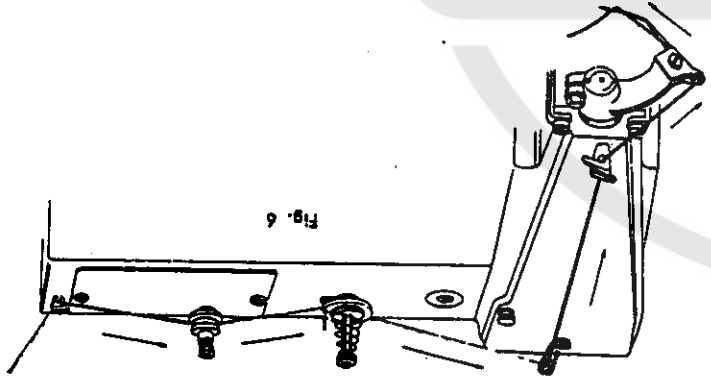

Fig. 6
7. Threading Machine (Fig. 6)
See threading chart Fig.6